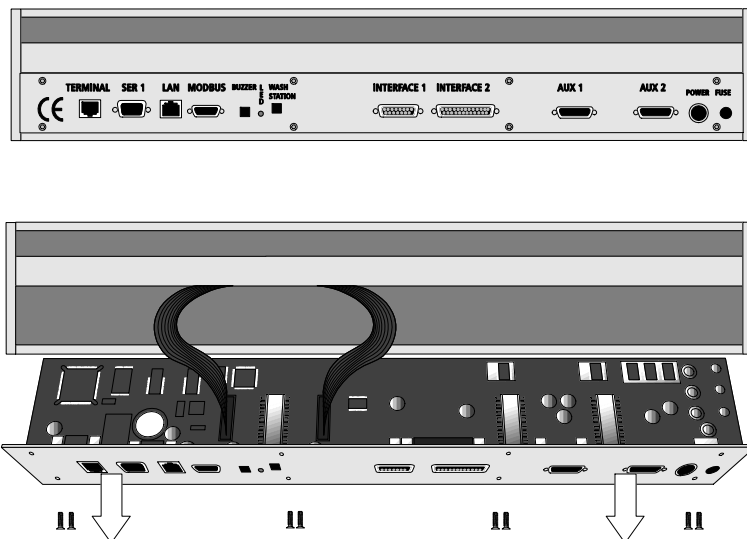

Figure 57. Replacing Control-xt Board
1. Follow the sequence shown in Figure 57 to detach and release the Control-xt board from its position inside the X-axis. As shown, remove the dummy cover first;